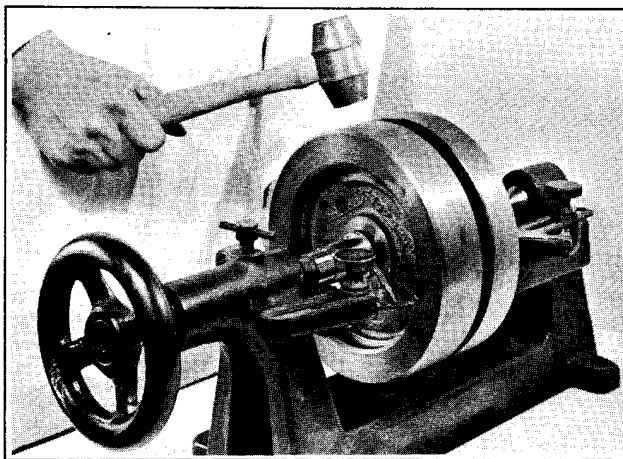

Figure 3-43. Truing Flywheels on Truing Stand
8. When wheels are out of true as indicated in "C," strike the rim of the wheel a firm blow at about 90 degrees from crank pin on high side (see Figure 3-43).